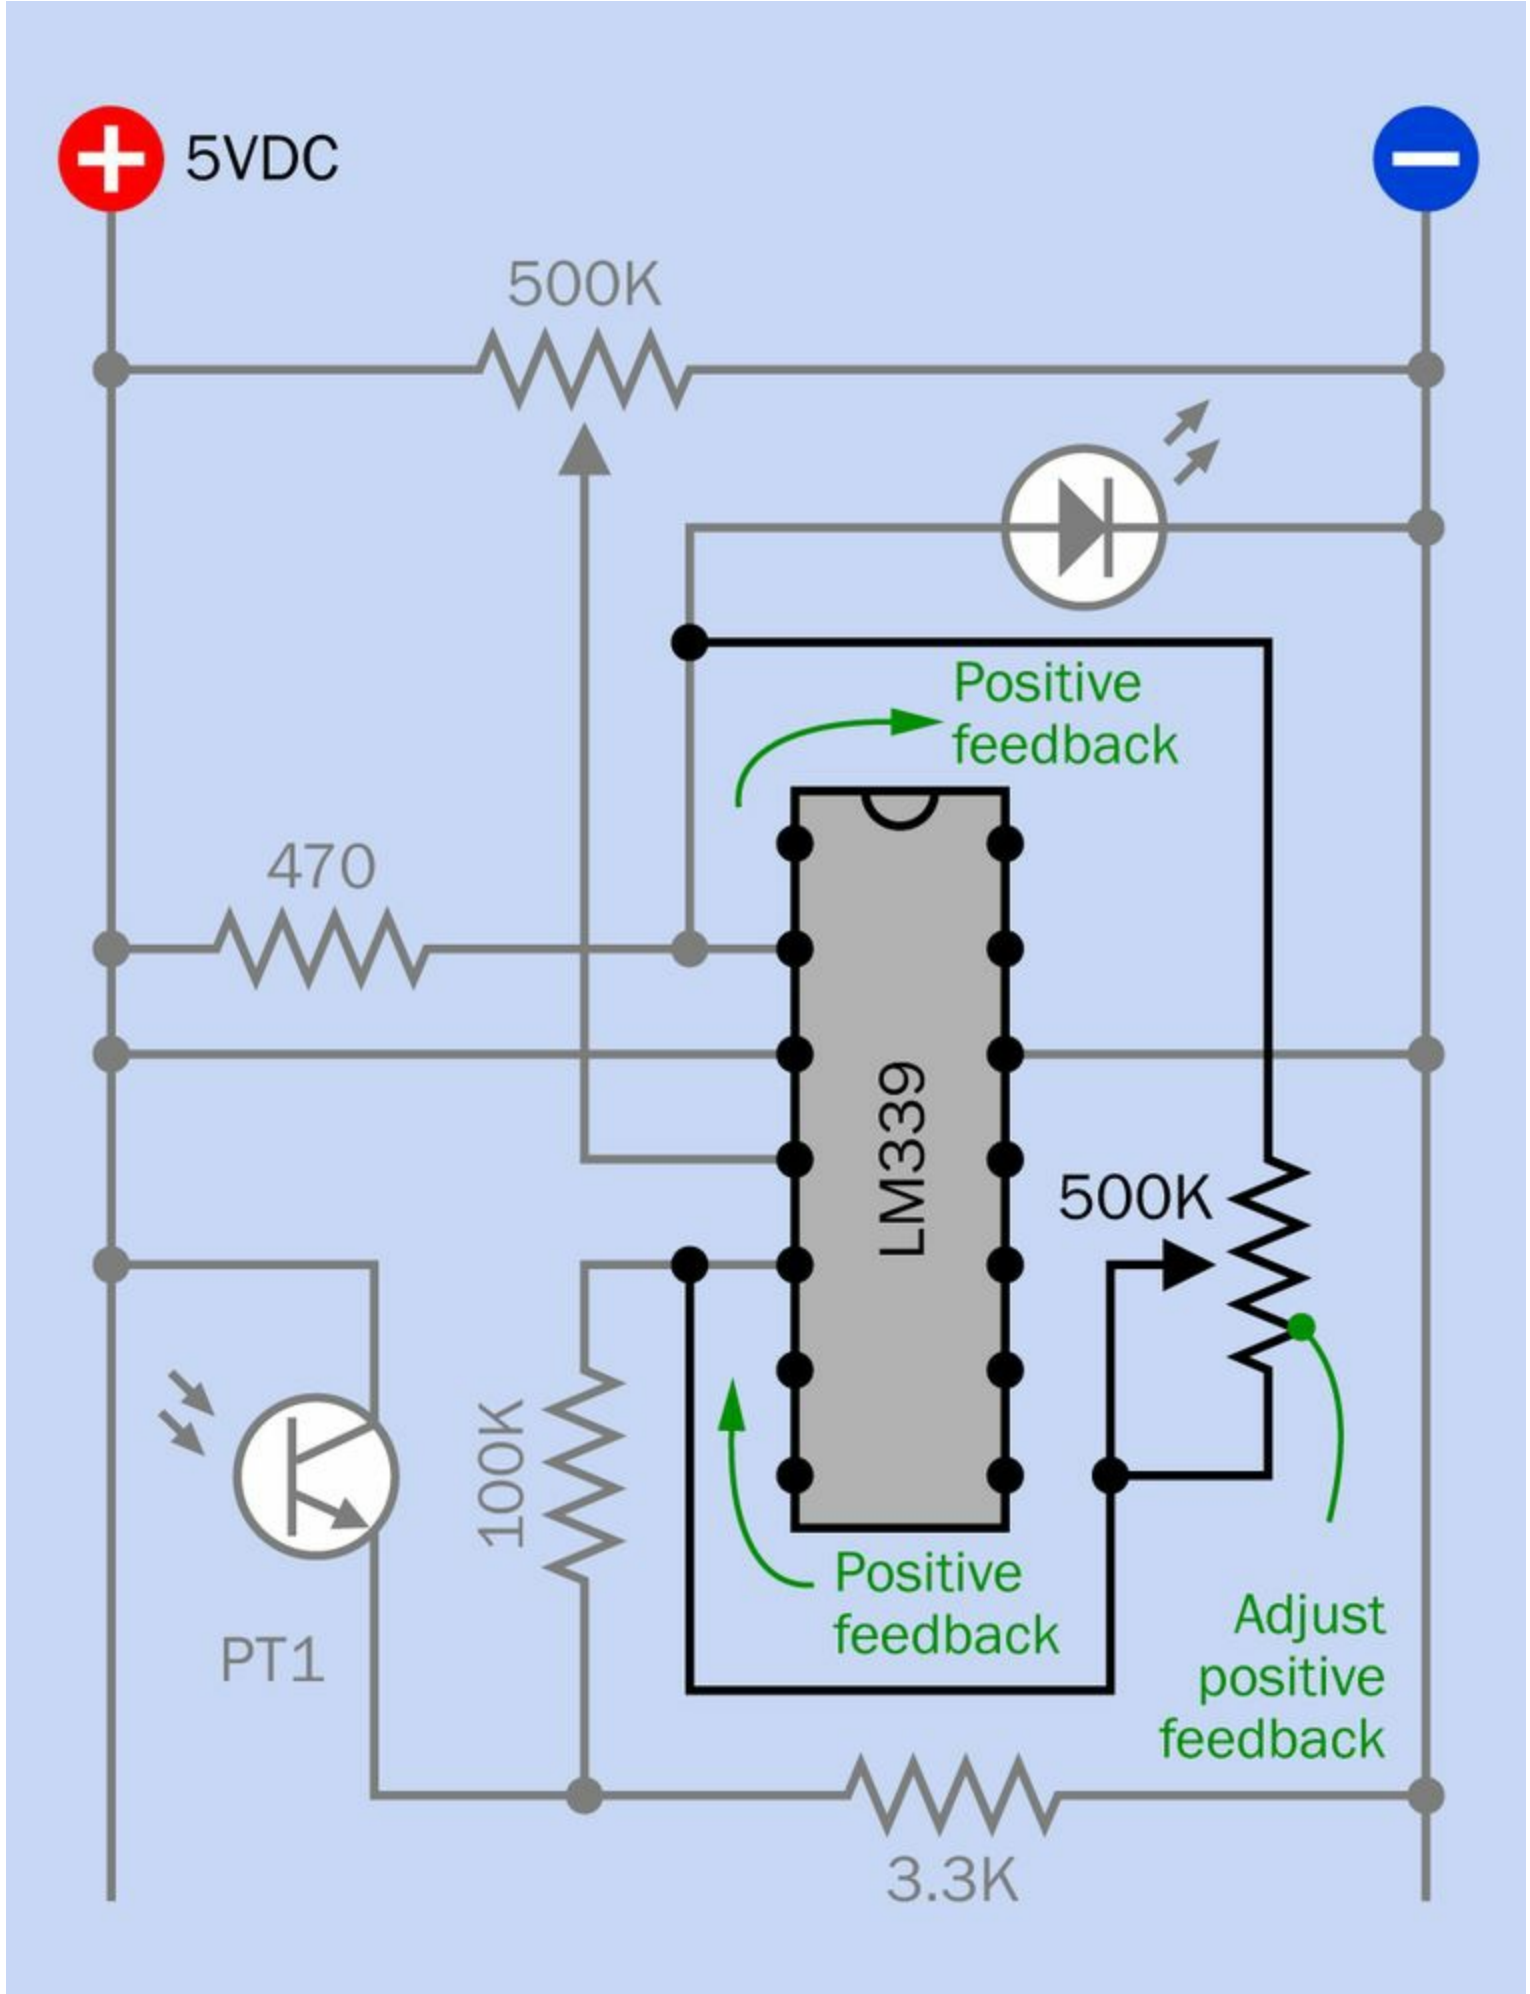
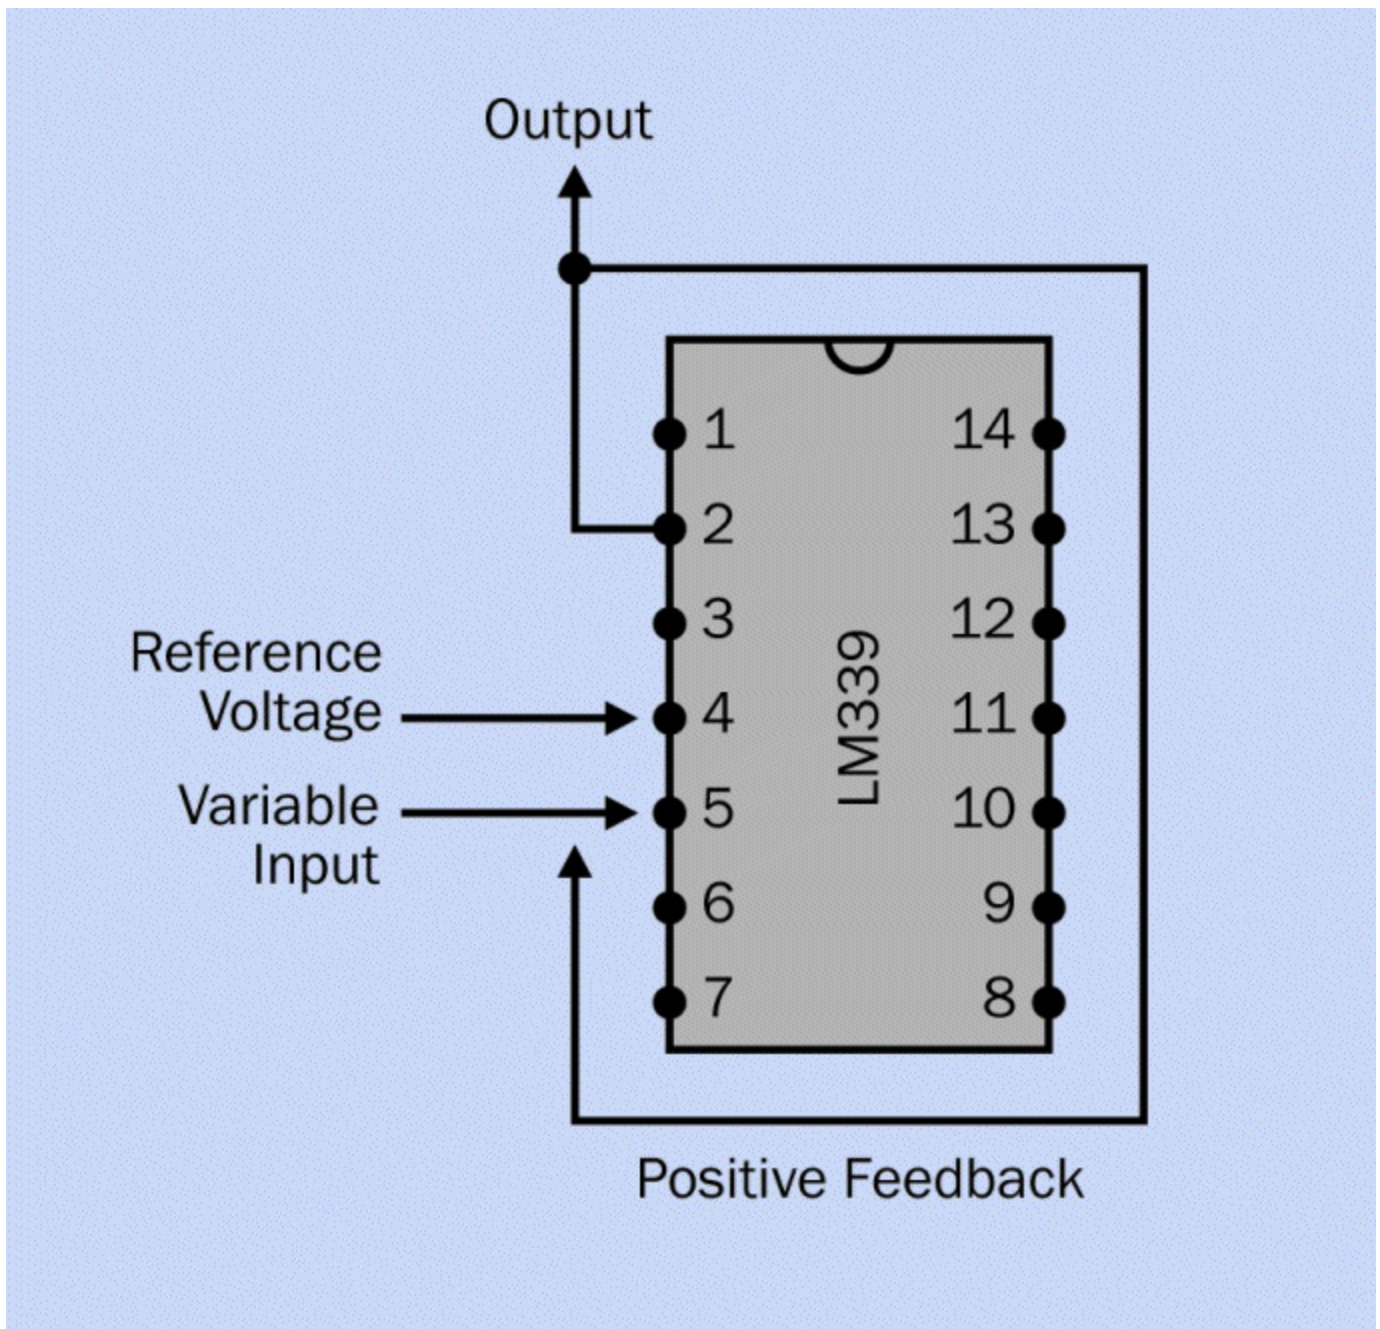

Figure 6-3. The basic comparator circuit has been modified to clean up its output, by the addition of positive feedback.
Figure 6-5. The basic concept of positive feedback.
Figure 6-3 shows the same circuit as before, but with an additional potentiometer on the right.
The basic idea of this circuit is shown in Figure 6-5. Notice that pin 2 of the comparator chip is connected back to pin 5. Pin 2 is the output (remember, it controls the LED). Pin 5 is the variable input — the phototransistor is connected with it through the 100K resistor. So the second potentiometer in Figure 6-3 is taking some of the voltage from the output and feeding it back to the input. This is the positive feedback.
- Most comparators should have their outputs connected to devices with high input impedances, such as logic chips. That kind of chip demands very little current, so you can use a relatively high-value pullup resistor, which is typically  $5K$ . The  $470\Omega$  resistor in the schematic in **Figure 6-3** is relatively low because the comparator had to drive an LED.
The schematic that I showed you in **Figure 6-3** was laid out so that it would be as easy as possible for you to transfer to a breadboard. But other people don't make it so easy for you to breadboard a circuit. They tend to put positive voltage at the top, negative ground at the bottom, input on the left, and output on the right. This convention is used because the circuit is easier to understand when you look at it for the first time.
**Figure 6-13** is an example of a conventional schematic using a comparator. The components and connections are actually the same as in **Figure 6-3**.